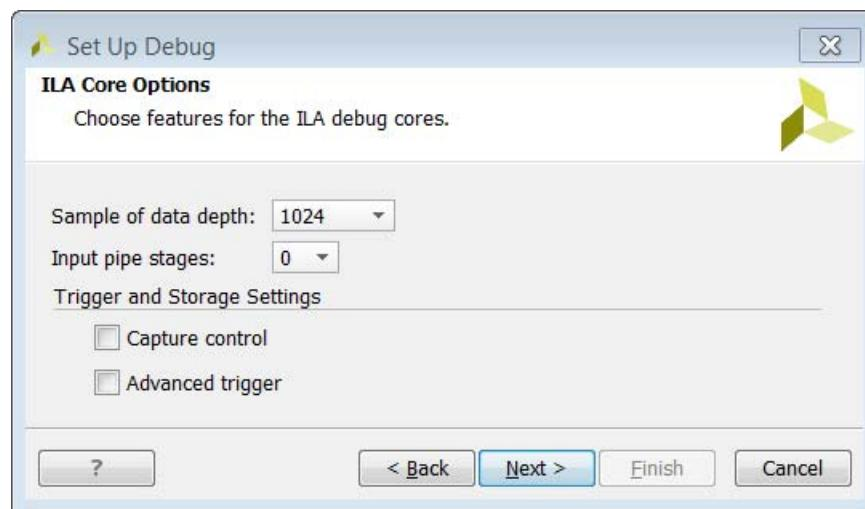

Figure 6-35: Setup the Trigger and Capture Modes in the ILA
10. In the ILA Core Options page, shown in Figure 6-35, page 121, select the appropriate options for triggering and capturing data, and click **Next**.